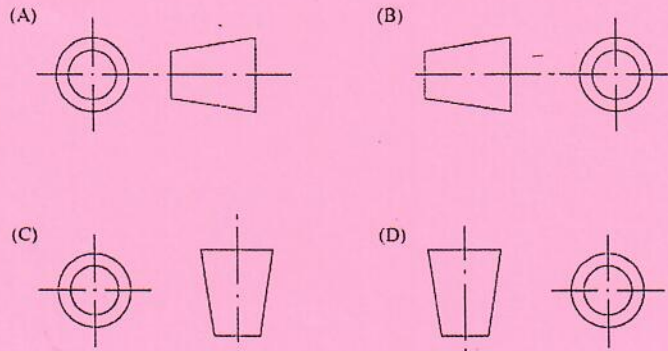

Figure 1 Possible presentation of a symbol for first angle projection.
- a) Which drawing in Figure 1 represents First Angle projection? [2 marks]